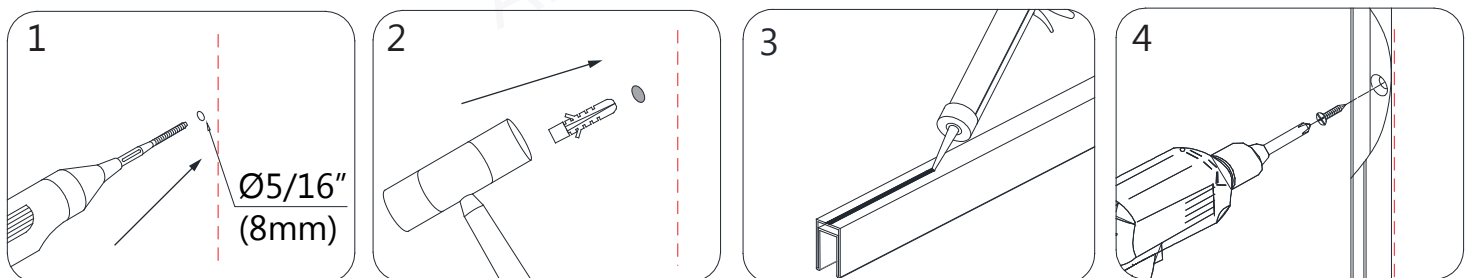

Fig 4
4. Set the **U-Channel (#01)** aside and drill the holes in the wall using a **Ø5/16"** drill bit and insert the **Ø5/16" Plastic Wall Anchors (#16)** into the holes. Apply silicone into the screw holes and to the back surface of the U-channel. Attach the **U-Channel (#01)** to the wall using the **ST4.0×40 Pan Head Screws (#17)**. **(Fig 4)**